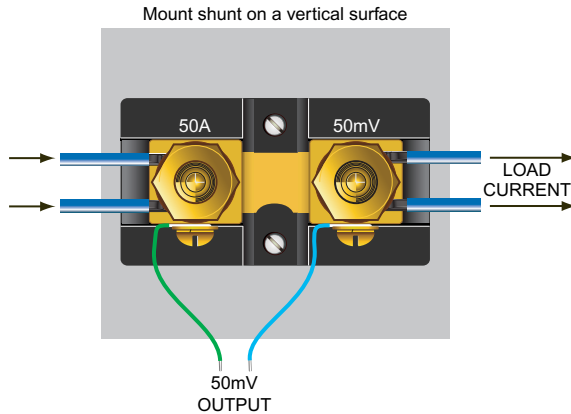

Figure 1. Typical installation
- 2. Mounting Considerations:** All shunts should be mounted with their resistance blades in a vertical position to allow for natural convection cooling (see Figure 1). Forced-air cooling must be provided when vertical mounting is impractical, or in installations where the shunt is installed in a confined location. The shunt's manganin blades must never be allowed to exceed +125°C; doing so will cause permanent damage to the shunt.
Whenever practical, all shunts should be connected in the grounded side (normally the 'chassis') of the dc supply. However, these shunts must be connected in the grounded side of the circuit when the dc supply exceeds 750 volts (the rated limit for the shunt's phenolic insulating base). When more than one wire is to be connected to each end of a shunt, the wires must be evenly distributed between both terminals (see Figure 1).